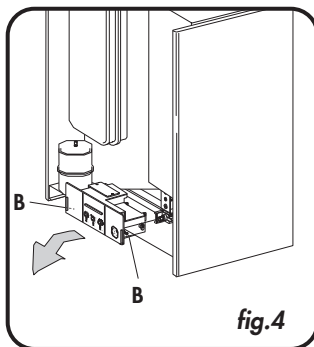

fig.4
- To gain access to the electrical and electronic components loosen screws **B** and pull the entire panel outwards (fig.4). Tilt it downwards and undo the screws **C** on the cover **D**